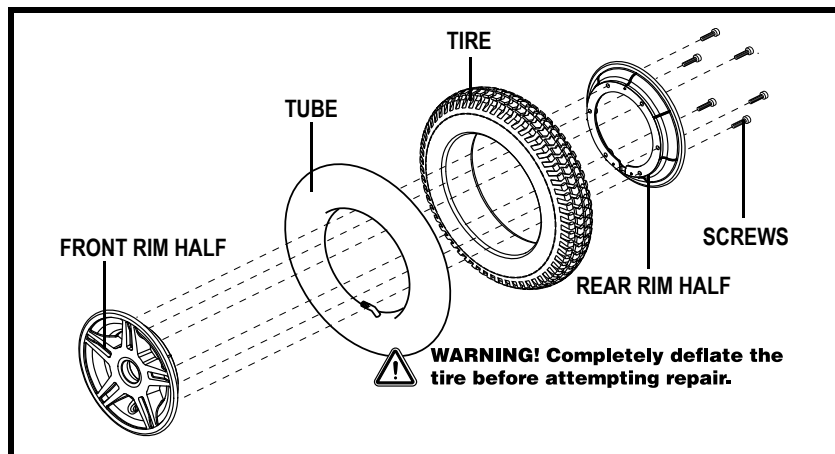

Figure 22. Quantum 614 Series Drive Wheel Disassembled
6. Remove the screws from the rim assembly and separate the front and rear rim. See figure 22.